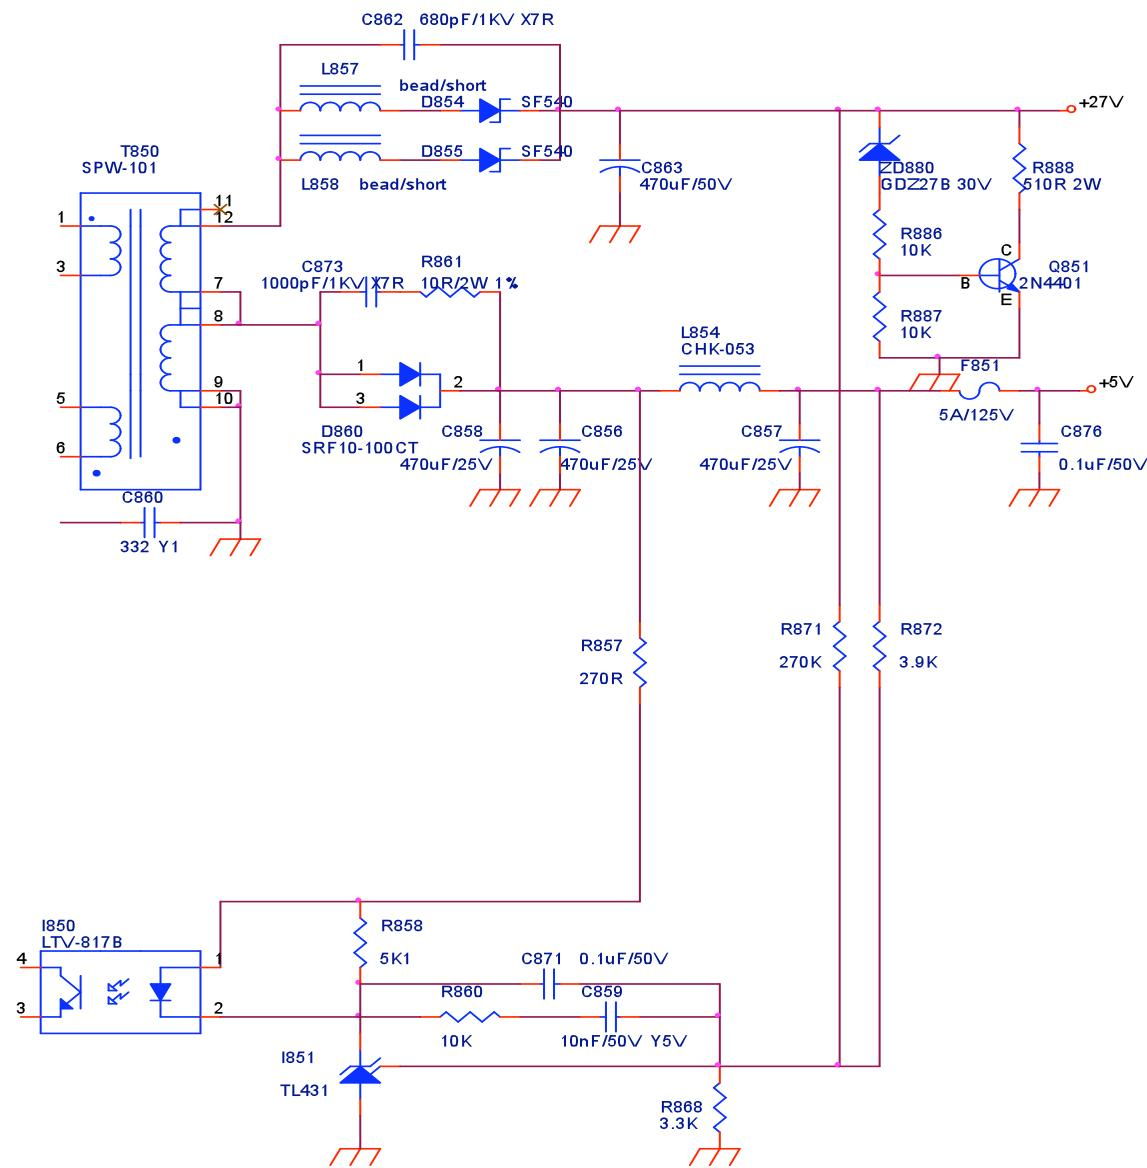

fig.7
2.2.4)DC 27V and 5V Output Circuit and Feedback circuit:(fig.7)